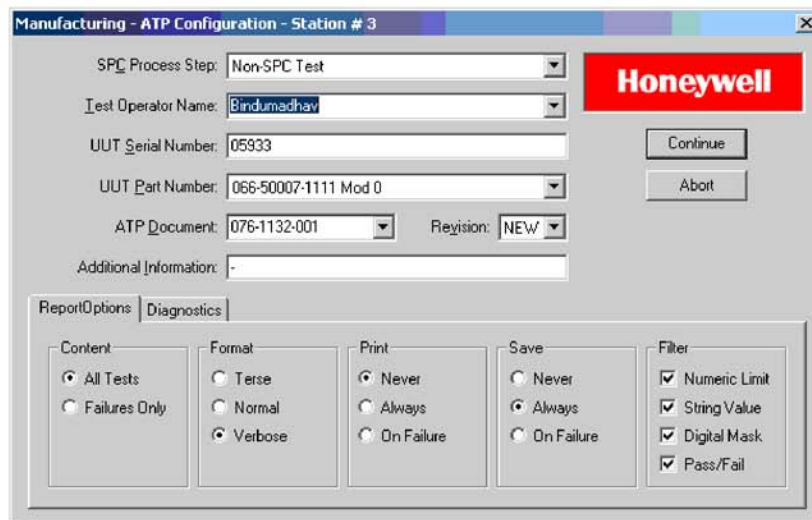

Figure 3. ATP Configuration window
- 3 When the ATP Configuration window appears (see Figure 3). Verify that the LRU information is correct.
NOTE: Figure 3 shows the preferred ATP report option settings in the ATP Configuration window.
- 3 When the ATP Configuration window appears (see Figure 3) verify that the LRU information is correct. Select **Continue** to start the test. The status icon at the bottom of Test Executive window will indicate that the executive is "Running".